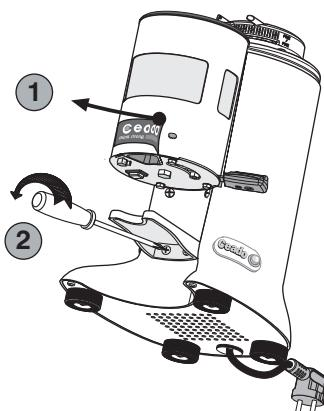

Fig. 13
- Remove the Ceado sticker from the doser (1, Fig. 13) and remove the support fork, undoing the retaining screws (2, Fig. 13). Keep these screws in a safe place.